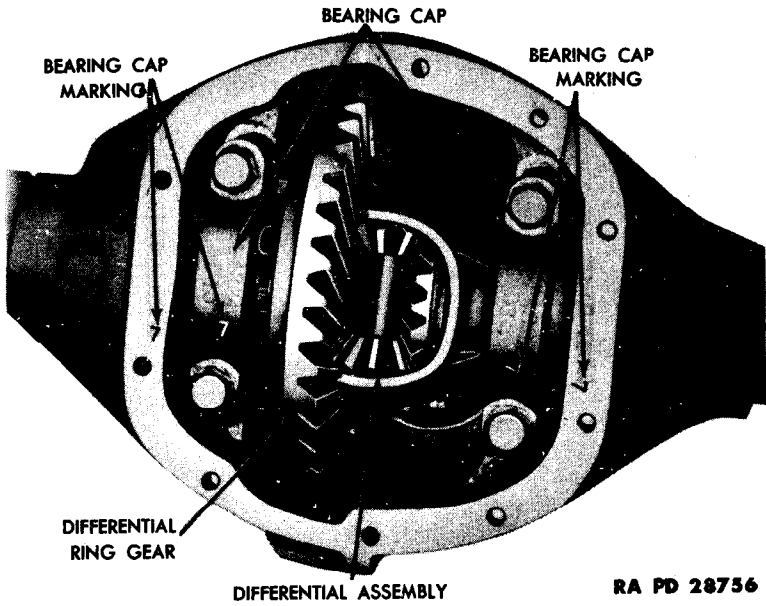

Figure 47 – Differential Assembly
e. **Remove Differential** (fig. 47). Remove the ten cap screws that secure the differential cover to the differential housing. Remove the differential cover and gasket. Remove the two cap screws from the bearing cap at each end of the differential gears and remove the caps. Remove the differential gear assembly from the housing, using a pry bar, if necessary. Reinstall the bearing caps in the housing, noting the markings (fig. 47) to assure their being installed in their correct location.
(2) **REMOVE RING GEAR FROM CASE** (fig. 47). Bend the ears of the lock plates off the cap screws. Remove the cap screws that secure the ring gear to the case, and remove the ring gear.